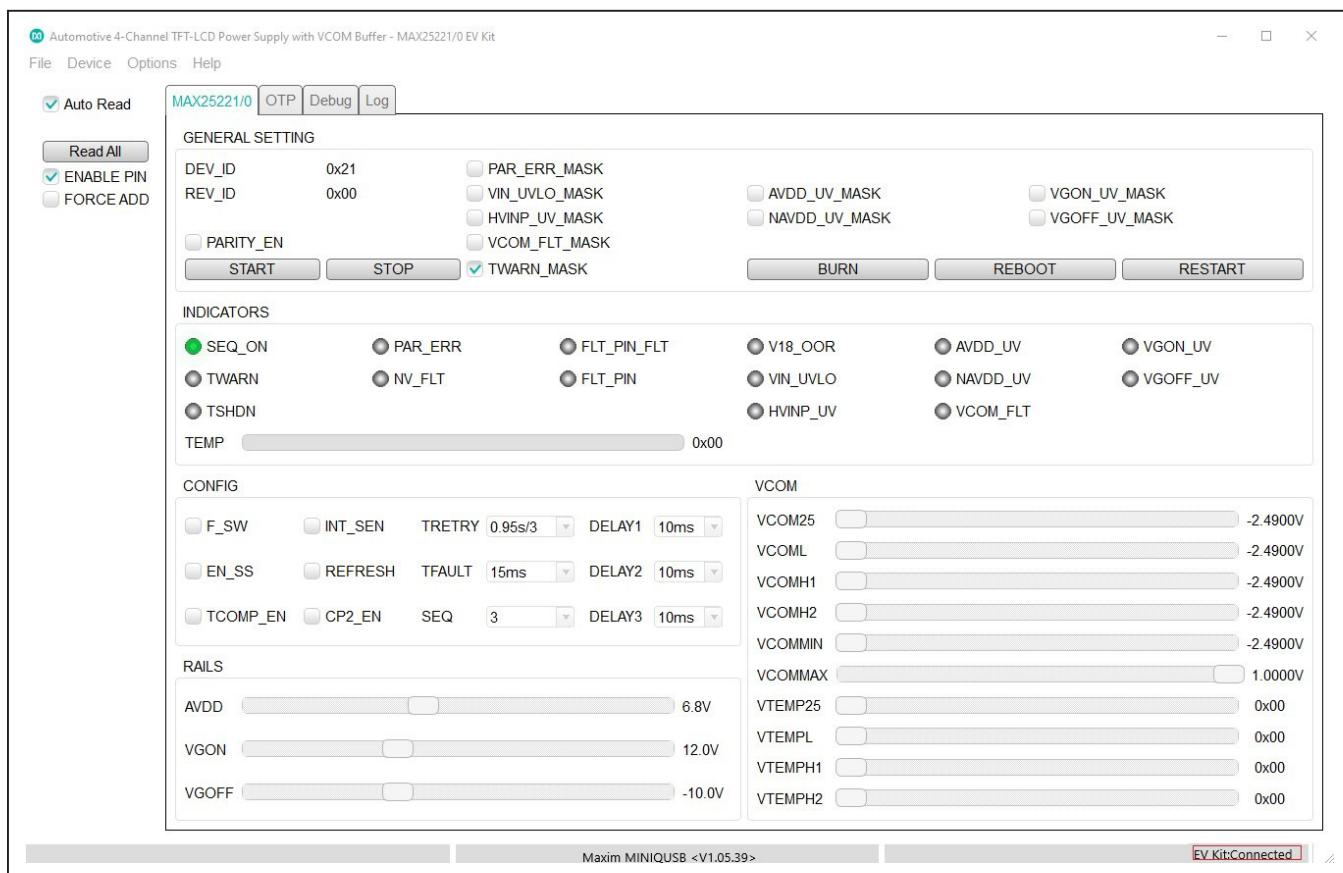

Figure 1. MAX25221 Evaluation Kit Software (GUI)
- From the EV kit software toolbar, select **Device → Scan for Address**. The GUI scans the I²C bus for available slave addresses on the bus and selects the first one (in this case, the MAX25221 I²C address with J5 settings: 52H). Press **OK** once the MAX25221/MAX25220 I²C address has been found. **Figure 1**, is a screen capture of MAX25221 Evaluation Kit Software (GUI).